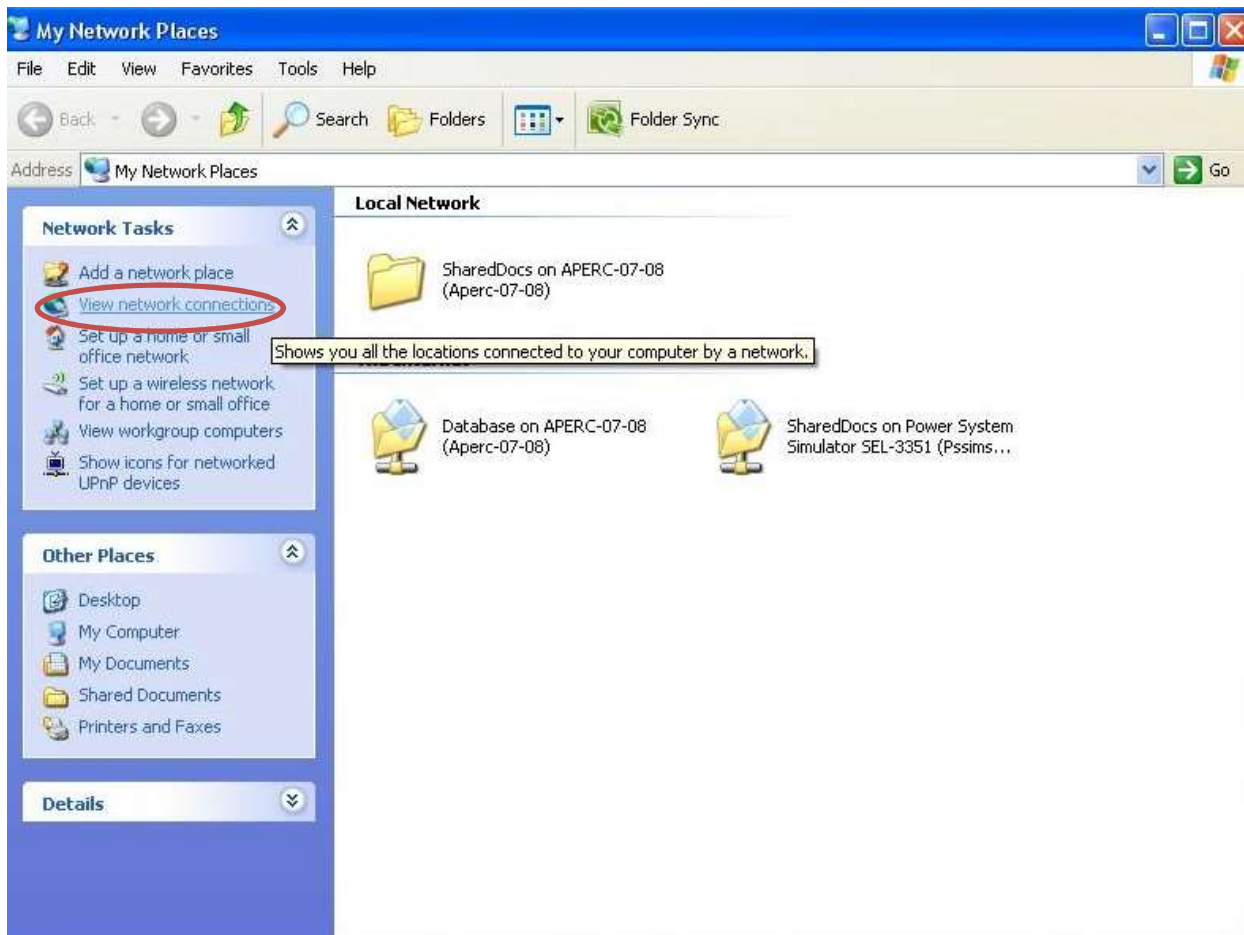

Figure 4.4 Network Connections
2) Click View network connections (Figure 4.4)